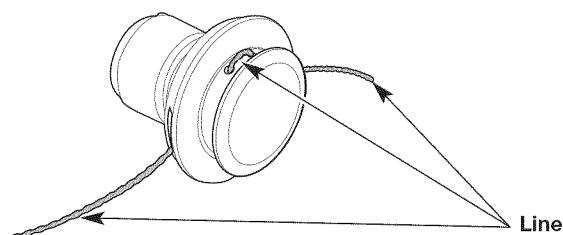

Fig. 17
- Pull the ends of the line until the line is tight against the cutting head. Make sure the ends of the line are of equal length (Fig. 17).